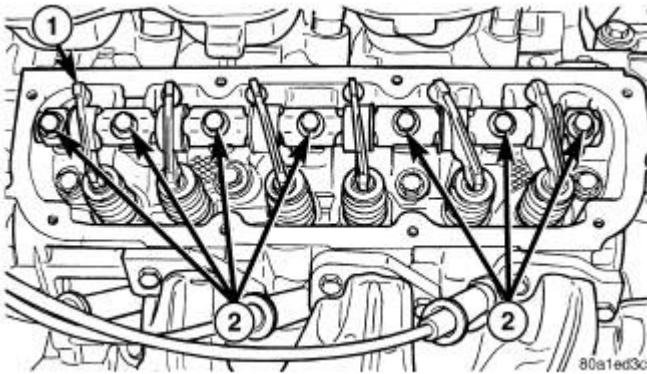

Fig. 71: Rocker Arms, Shaft Assembly & Bolts
2. Loosen the rocker shaft bolts, rotating one turn each, until all valve spring pressure is relieved. Refer to Fig. 71.
3. Remove the rocker arms and shaft assembly. Refer to Fig. 71.